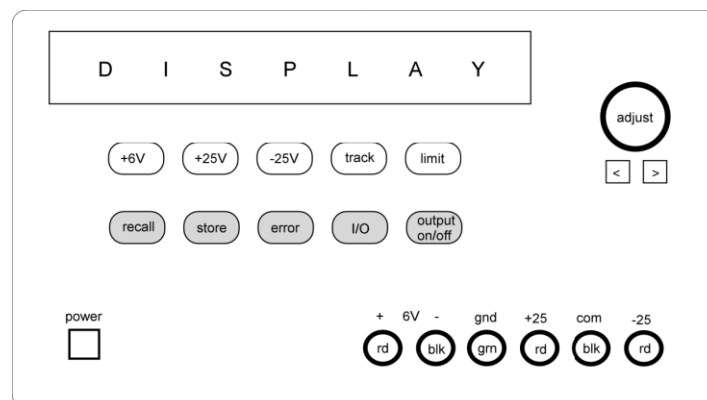

Figure 1-4: Agilent E3631 triple power supply
- Press the “POWER” button to turn on the Agilent E3631 triple power supply, which is shown in Figure 1-4 (do not press the OUTPUT ON/OFF button yet).